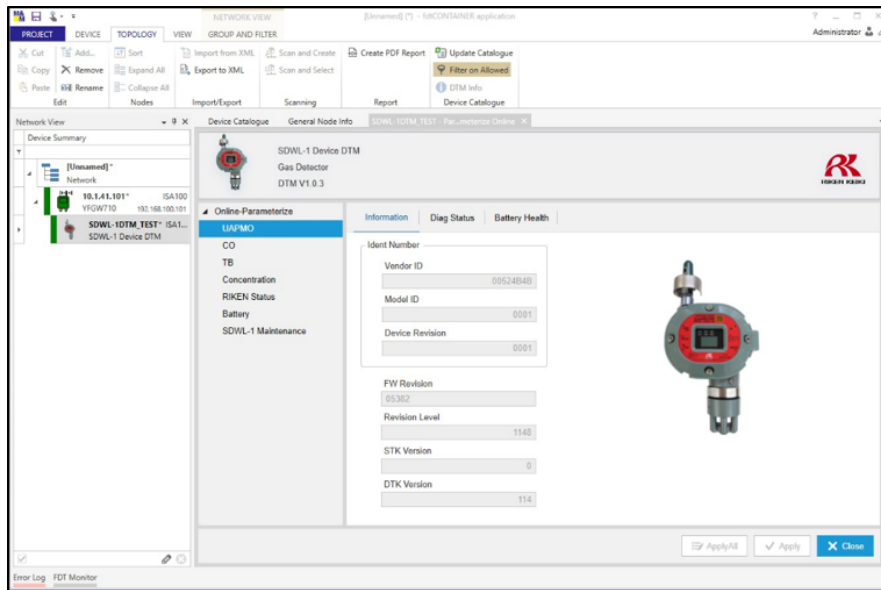

Figure 5-52 Online window
- ⑭ Once the DTM is launched, the window shown in Figure 5-52 below is displayed, and parameter loading starts. Parameters can then be checked and configured.